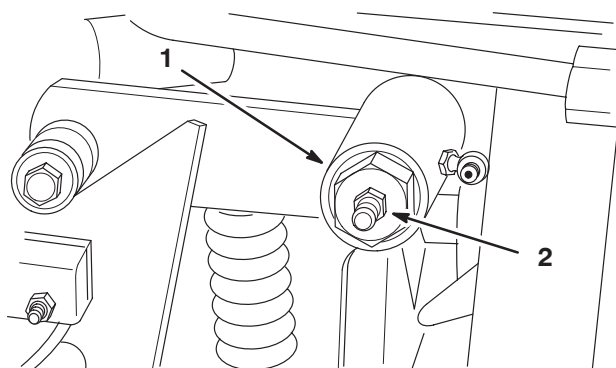

Figure 27
4. Loosen the locknut on the traction adjustment cam (Fig. 27).
5. Start the engine and rotate the cam hex (Fig. 27) in both directions to determine the mid position of the neutral span.